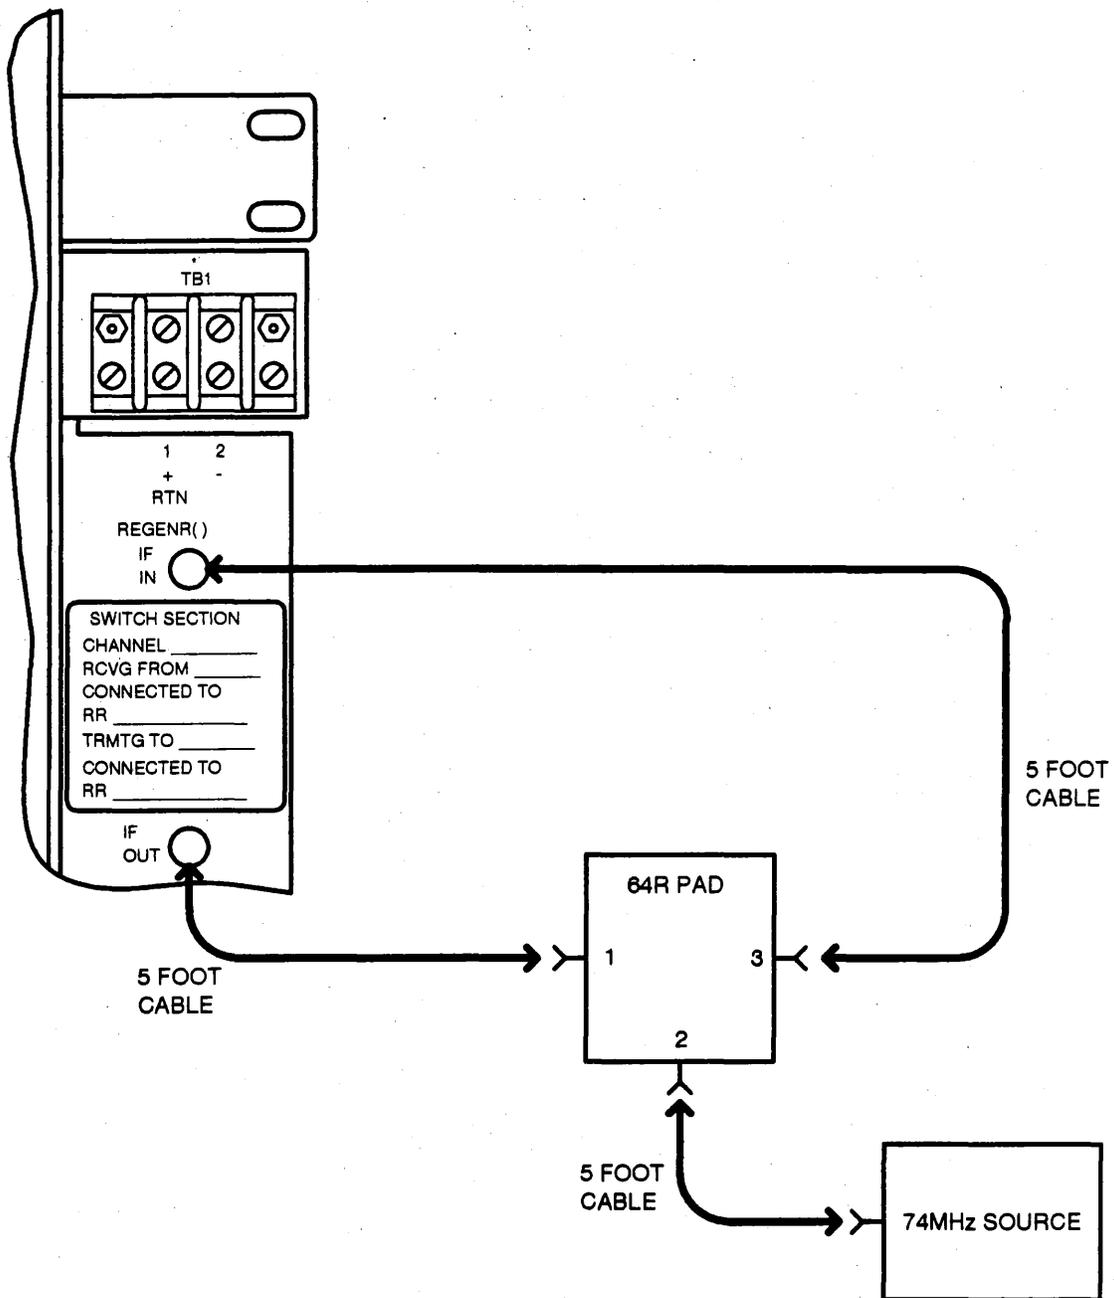

Figure 3-IF Loopback S/I Stress Check Connections
The test configuration for the looped back S/I test is shown in Figure 3. The IF output signal "S" from the transmitter is looped back, through the low-loss (less than 1 dB) path of the unequal loss combining network, to the receiver IF input. The adjustable level 74-MHz interference signal "I" is injected into the receiver IF input signal through the high-loss path of the combining network.
5. Determine the test cables to establish the S, I, and S+I paths (Figure 3), and keep the same cables for all tests in this procedure.
10. Establish the test connections shown in Figure 3.
11. Remove the termination and connect the test cable with the "S" signal to the unequal loss combining network as shown in Figure 3. Connect the "S+I" combined signal to the IF IN jack.